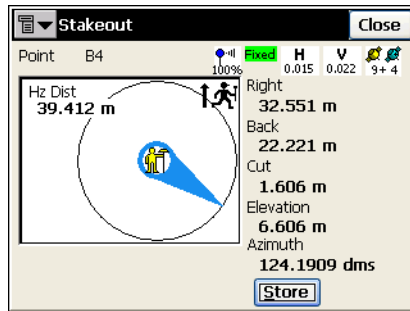

Figure 7-27. Stakeout
6. For GPS+: use the information on the **Stakeout** screen for finding the target. Tap **Store** after the target is close enough to the design point (Figure 7-27).
7. For TS: sight the prism. In the **Stakeout** screen, tap the **Cur Pos** button to check the position. Use the **EDM** button to select distance measurement mode: Coarse, Fine or Coarse Tracking. Once the position is close enough to the design point, tap **Meas** to store it (Figure 7-27).